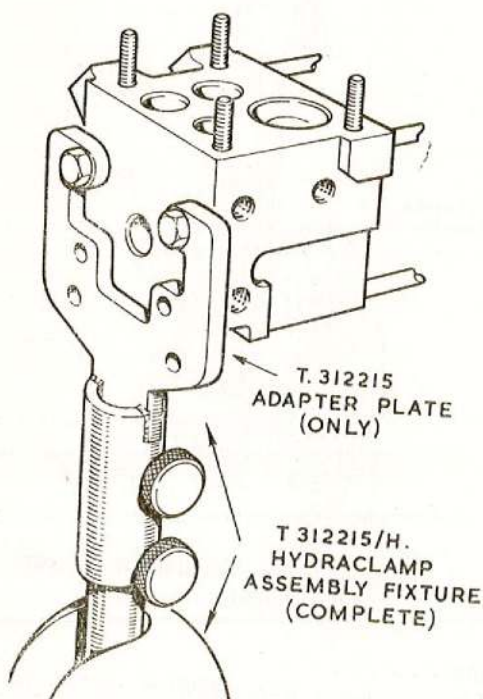
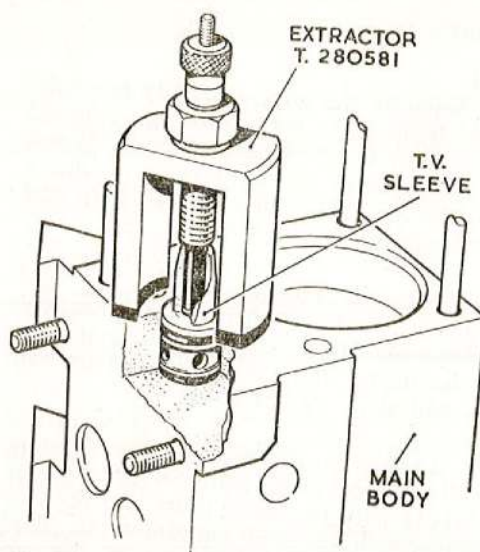

Fig. 4. Fixture for dismantling or assembling
Fig. 5. Removing the throttle valve sleeve
26. Fit the main body to the hydraulic fixture T.312215/H (fig. 4) and secure it with slave bolts. Remove the throttle valve sleeve (29) from the bore above the governor carrier aperture, using the extractor T.280581 (fig. 5). Discard the sealing rings.
27. Remove the three blanking plugs and bonded seals (75) from the side of the body, and the sealing plug with sealing ring (27) from beneath the burner outlet connection.